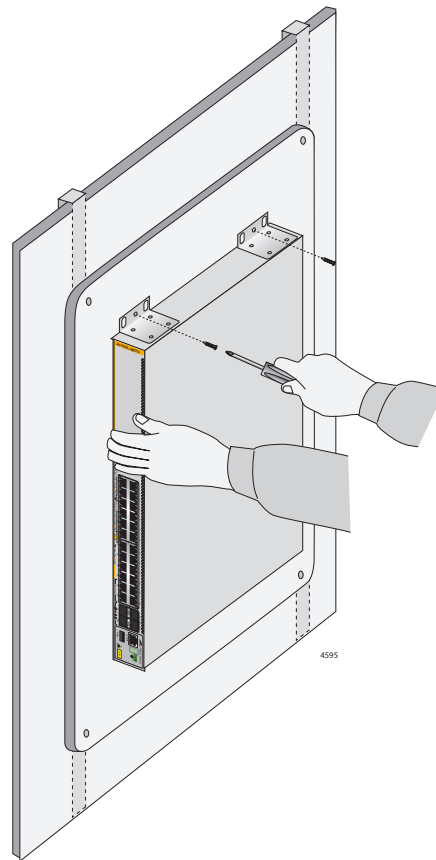
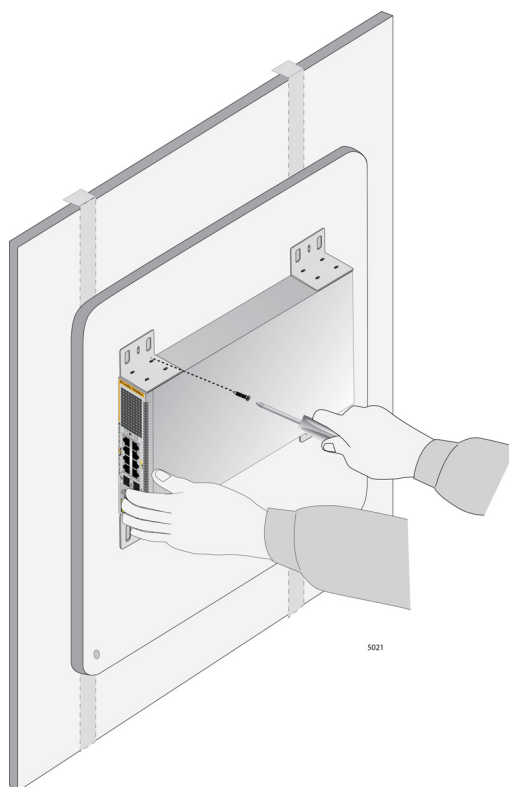

Figure 63. Securing the Switch to the Plywood Base
Figure 64. Securing the x530L-10GHXm Switch to the Plywood Base
3. After attaching the brackets, have another person hold the switch on the plywood base on the wall while you secure it with the M4x32.3mm screws included with the switch. Refer to Figure 63 on page 101 for the x530L-28GPX, x530L-28GTX, x530L-52GPX, or x530L-52GTX switch or Figure 64 on page 102 for the x530L-10GHXm switch.
- ❑ Position the switch so that the front panel is facing up, left or right. Refer to Figure 63. Do not install it with the front panel facing down.